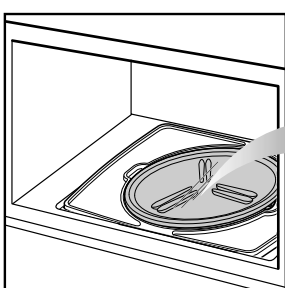

Figure 4-1
3. Place the glass tray on the rotating ring. Fit the rollers of the shaft between the raised, hollowed groove of the glass tray bottom. The rollers on the rotating ring should fit inside the glass tray bottom ridge. (see figure 4-1, 4-2)